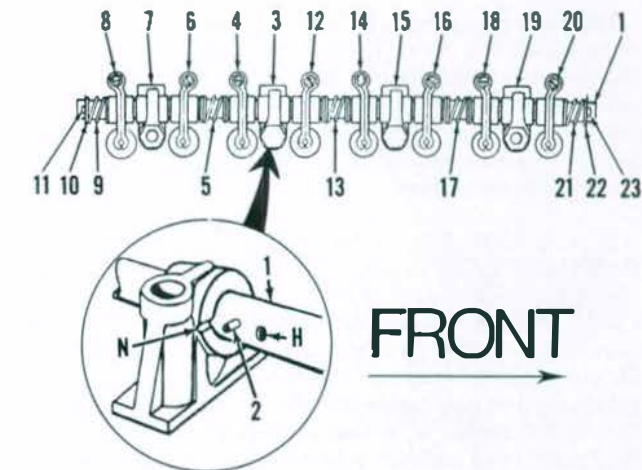

Fig. 36—Drawings showing the offset of rocker arms and installation of pin (2) in notch (N) of the third bracket (3). Refer to Fig. 35 for legend.
Fig. 35—Exploded view of rocker arm assembly. Oil holes (H) must be toward valve side and rocker arms must be offset as shown in Fig. 36. All brackets have notch (N), but pin (2) engages notch in third bracket (3).
notch (N) in front face of the third support bracket (3). Begin assembly by installing pin in notch of bracket as shown in Fig. 36. Install one rocker arm (4—Fig. 35) stamped "7R", spring (5), rocker arm (6) stamped "8L", another bracket (7), another rocker arm (8) stamped "7R", short spring (9), washer (10) and cotter pin (11) to the short end of shaft. Install remaining parts to longer end of shaft as shown in Figs. 35 and 36. Rocker arms (4, 8, 14 and 18) are alike and stamped "7R". Rocker arms (6, 12, 16 and 20) are alike and stamped "8L". Springs (5, 13 and 17) are identical as are support brackets (3, 7, 15 and 19). Short spring (9 or 21), washer (10 or 22) and cotter key (11 or 23) are used at each end.